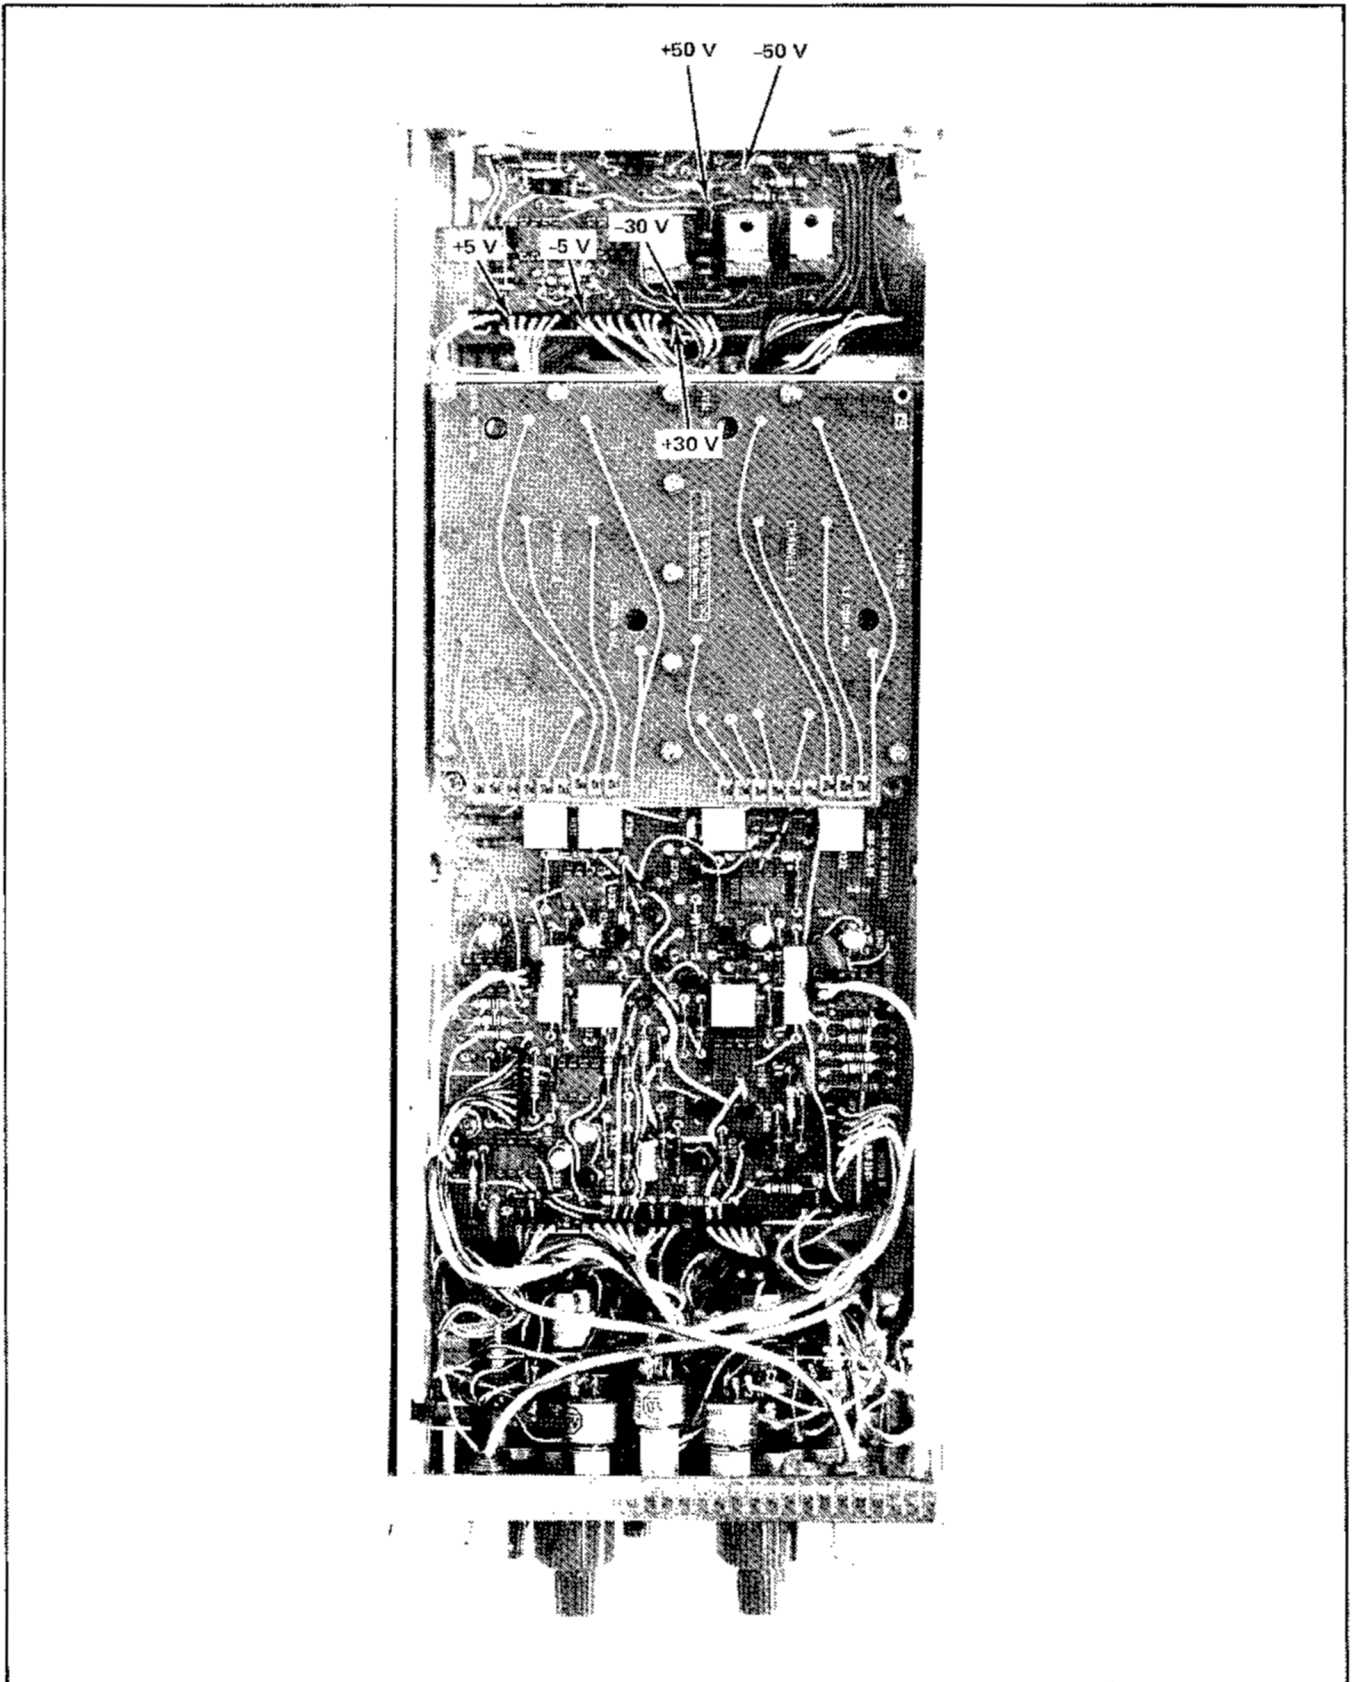

Fig. 7-1. Power Supply Test Points.
The power supply voltages in the 7S14 should be checked before any internal adjustments are made. However, do not check the supply voltages unless you expect to be making internal adjustments. Power supply checks are not to be considered performance checks. The location of the test points are shown on Fig. 7-1. Measure the supply voltages with the 7A13 and a 1X probe or some accurate DC Voltmeter.
The +50 V, -50 V, and +5 V supplies from the mainframe should be within $\pm 3\%$ of their nominal values when measured at the points of the 7S14 as indicated on Fig. 7-1. If the supplies are not within $\pm 3\%$, mainframe repair or adjustment is needed.
- b. Connect the 1X probe to the +50 V test point shown on Fig. 7-1 (resistor R615).
- d. Push the – polarity button, attach the probe to the –50 V test point shown on Fig. 7-1 (diode VR613), and check the –50 volt supply in the same manner as the +50 volt supply. Make note of the actual value for use in steps f and k.
- e. Connect the 1X probe to the –30 V test point shown on Fig. 7-1 (Pin 3-2) and set the 7A13 COMPARISON VOLTAGE controls to 30.00.
- g. Push the + polarity button, attach the probe to the +30 V test point shown on Fig. 7-1 (Pin 3-1) and check the +30 volt supply in the same manner as the –30 volt supply. The value must be within 1% of 0.6 the value of the +50 volt supply.
- h. Connect the 1X probe to the +5 V test point shown on Fig. 7-1 (Pin 6-1) and set the COMPARISON VOLTAGE controls to 05.00.
- j. Push the – polarity button and attach the probe to the –5 V test point shown on Fig. 7-1 (Pin 5-2).